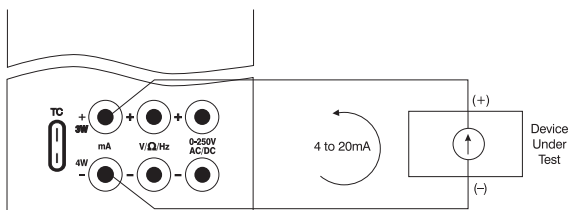

Figure 3.
2. Connect the device under test as shown in Figure 3.